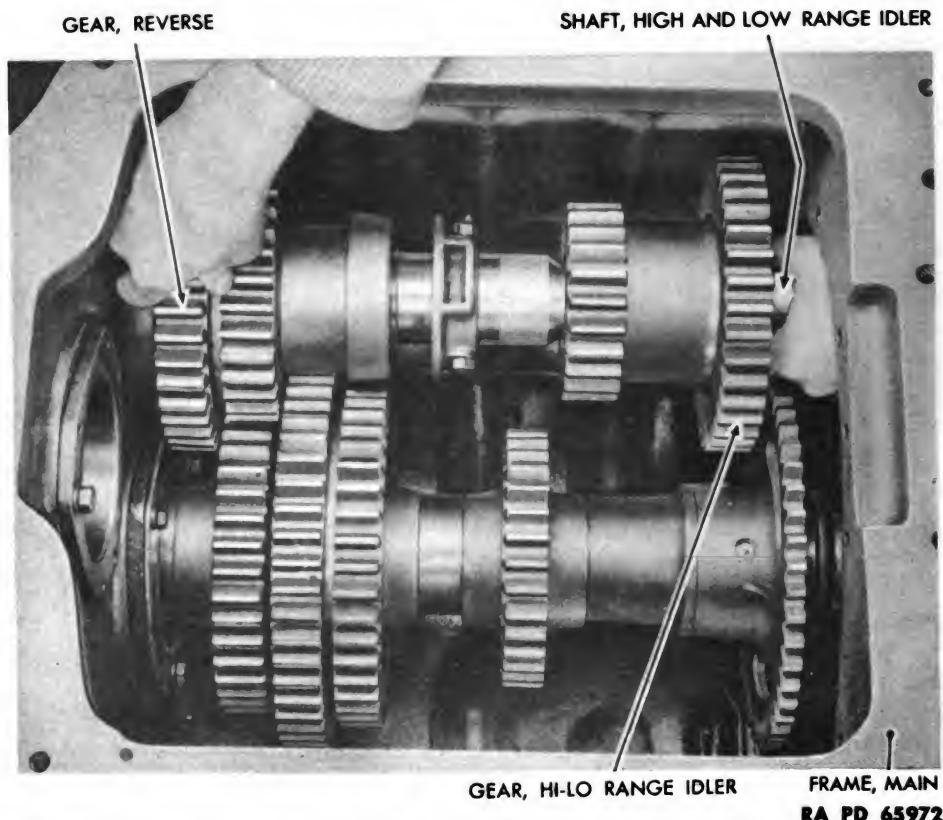

Figure 41 – Hi-Lo Range Idler Shaft and Attached Gears Removal
- (17) REMOVE HIGH AND LOW RANGE IDLER SHAFT AND ATTACHED GEARS (fig. 41).